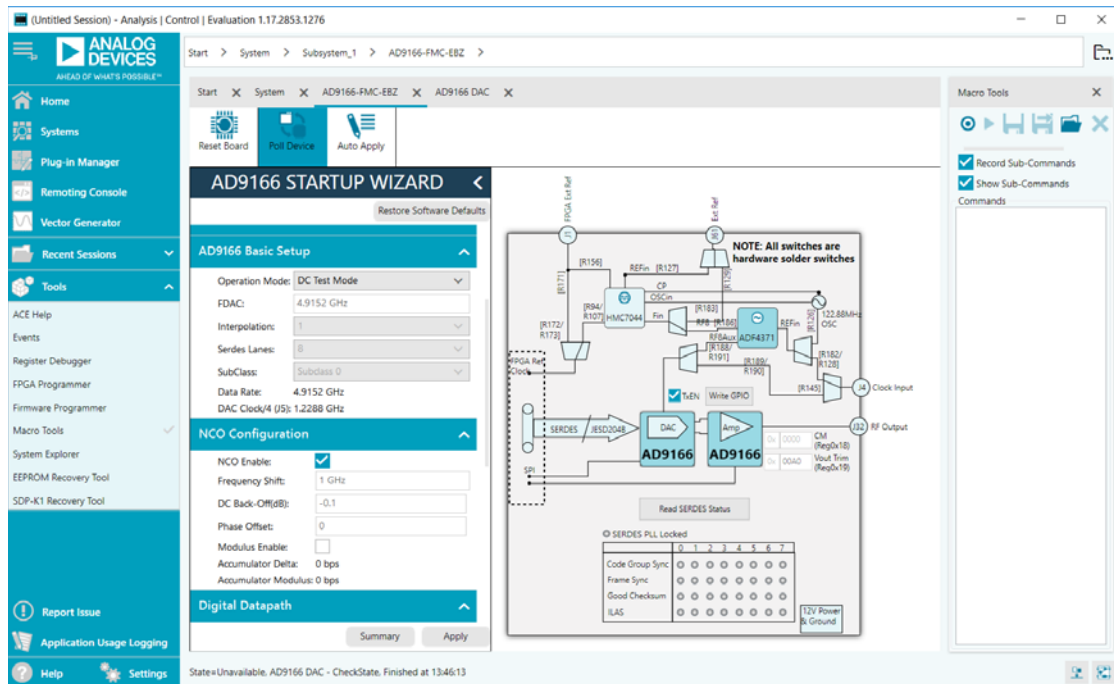
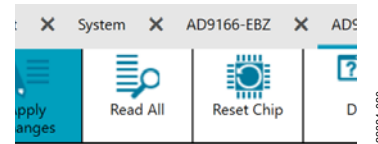

Figure 12. AD9166-FMC-EBZ Evaluation Board View and Clock Source Selection in ACE
Figure 20. **Reset Chip** in Chip View
3. Using the **AD9166 STARTUP WIZARD** on the left side of the window, follow these steps, as shown in Figure 12:
Before configuring the **AD9166-FMC-EBZ** evaluation board, it is a good practice to soft reset the evaluation board by clicking the **Reset Board** button in the evaluation board view of **ACE** (see Figure 12), or by clicking the **Reset Chip** button in the chip view (see Figure 20).